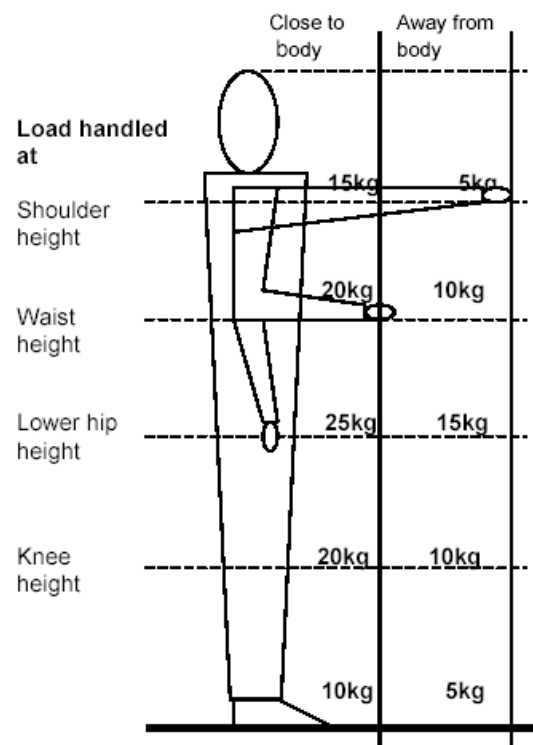

Figure 1: Basic guidelines for handling
8. Basic guidelines for lifting and lowering loads are given in Figure 1. It is assumed that the worker can grasp the load easily and that he can work in an upright position.
14. Again, the guidelines concentrate on limiting the exposure to the risk. This is linked to figure 1 and guidance is given in Table 2.
< 25m	Reduce figure 1 load by 30%